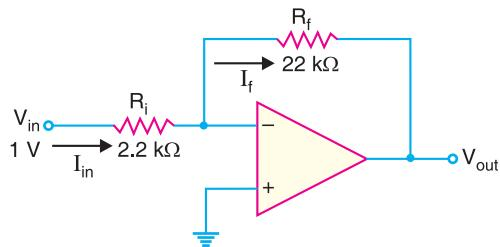

Fig. 25.105
12. Determine the approximate values of (i)  $I_{in}$  (ii)  $I_f$  (iii)  $V_{out}$  (iv) closed-loop voltage gain for the circuit in Fig. 25.105.